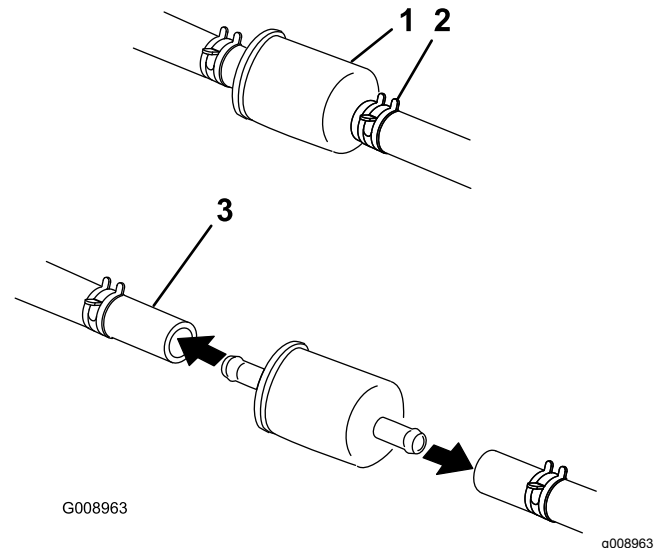

Figure 59
5. Replace the fuel filter (Figure 59).